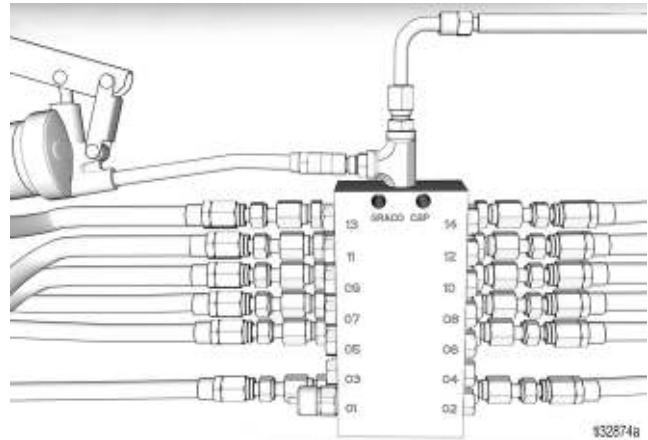

FIG. 36
- Connect a grease gun to the grease zerk on the CSP valves to fill them with grease (FIG. 36).